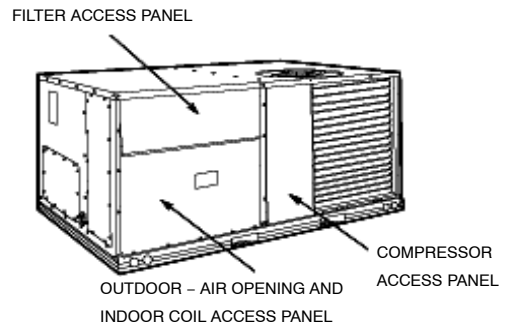

Fig. 2- Typical Outdoor Air Section Access Panel Locations
2. Remove the existing unit filter access panel. Raise the panel and swing the bottom outward. The panel is now disengaged from the track and can be removed and discarded. See Fig. 2.
3. Remove the indoor coil access panel and discard. See Fig. 2.